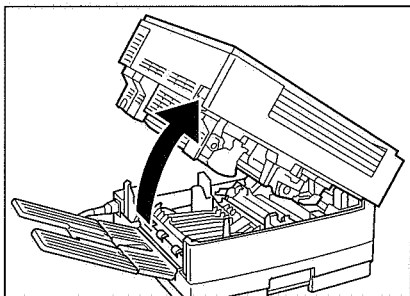

Figure 1-410
- 1) Remove the cartridge from the copier, and rotate it several times as shown in Figure 1-410.